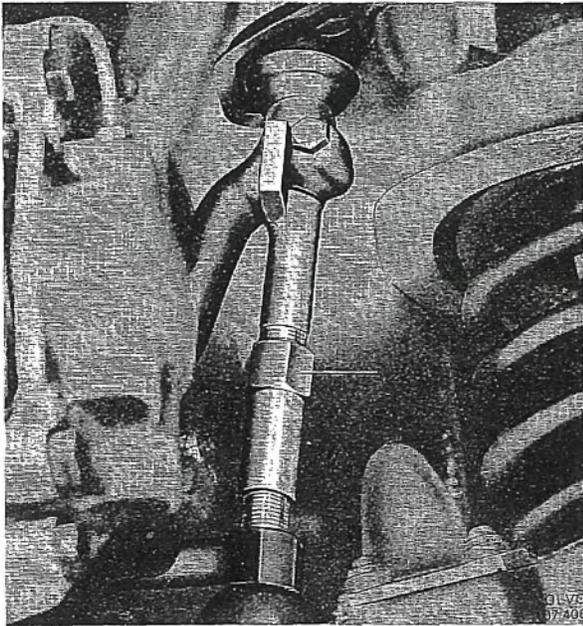

Fig. 6-29. Removing lower ball joint
4. Disconnect the brake hoses from the retainer. Fit tool 2281 to the steering knuckle, see Fig. 6-29. Probably the retainer for the brake lines may have to be bent slightly to the one side. Turn the tool nut until the tool starts to tension. Then turn the nut until the ball joint releases, but max. 1 1/2 turns. If the ball joint is so securely fitted that it cannot be slackened with this turning, try tapping light taps with a hammer and counterhold on the steering knuckle's ball joint attachment.